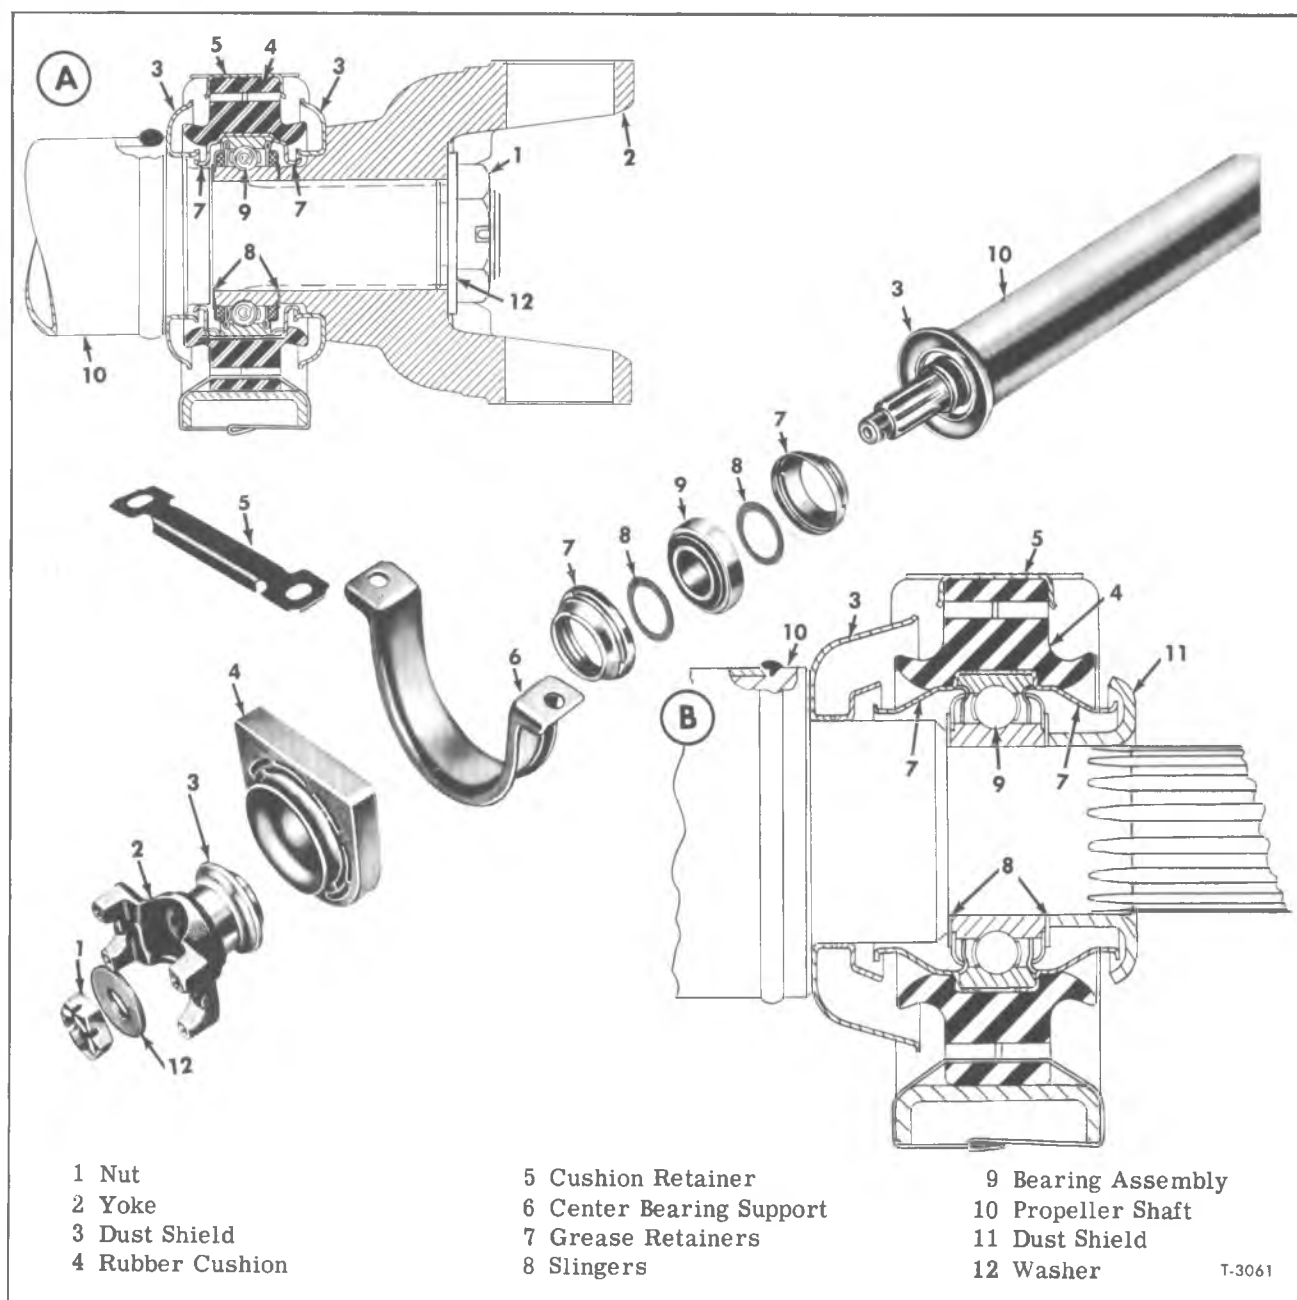

Figure 2—Typical Propeller Shaft Center Bearings
onto end of yoke. Fixed yoke may be either welded to propeller shaft tube or it may be splined to a stub shaft and secured with a nut and cotter pin as shown in figure 2. It is recommended that a scribe mark be made on slip yoke and shaft to provide for alignment of yokes later at assembly.
**CENTER BEARING (Fig. 2)**
Center bearings are used to support center portion of drive line when two or more propeller shafts are used. Bearing is ball type, mounted in a rubber cushion which is attached to frame cross-member by the center bearing support. The two center bearings shown in cross section in figure 2 are of the same construction except for shape and location of dust slinger. View B illustrates center bearing used at shaft end with slip yoke; View A illustrates center bearing used at shaft end with fixed yoke. Bearing is prelubricated and permanently sealed. Cavities in grease retainers on both sides of bearing are packed with waterproof grease to exclude dirt and water.
The following procedure covers disassembly of center bearing with propeller shaft removed from vehicle. Key numbers in text refer to figure 2.
1. Remove retainer (5) from support (6), then remove support from cushion (4).
2. On type shown in View A, figure 2, remove cotter pin and nut securing yoke (2) on shaft, then pull yoke off shaft. On type shown in View B, remove dust shield (11) from shaft.
3. Remove rubber cushion (4) from bearing (9), then pull bearing assembly from shaft.
4. Remove grease retainers (7) from bearing, and remove slingers (8).
5. If dust shields (3) are damaged, use a chisel to break welds and remove shields.
Key numbers in text refer to figure 2.
1. If removed, install new dust shields (3) on shaft or yoke. Tack weld or stake shields in place.
2. Press a grease retainer (7) over each side of bearing outer race. Pack cavities in retainers with "MPG" type grease recommended in LUBRICATION (SEC. 0) of this manual.
3. Install one slinger (8) over end of shaft. Start bearing and retainer assembly straight on shaft, then using a suitable sleeve to exert force on bearing inner race, press bearing and slinger against shoulder on shaft. Install the other slinger (8) over shaft and position against bearing.
4. Install rubber cushion (4) over bearing assembly, making sure bearing is centered in hole in cushion.
5. Position support (6) around cushion and install cushion retainer (5).
6. On type shown in View B, figure 2, press dust shield (11) onto shaft against slinger (8). On type shown in View A, install yoke (2) on shaft.
**IMPORTANT:** Centerline through yoke flanges must be aligned with centerline of yoke flanges on other end of shaft. Install nut (1), tighten firmly, and secure with cotter pin.